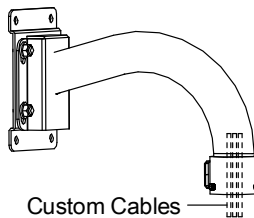
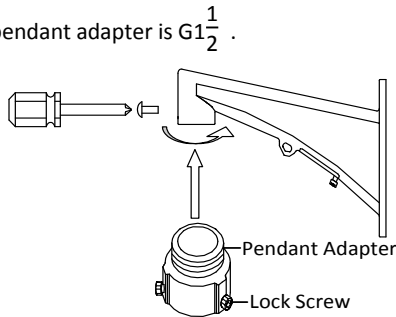
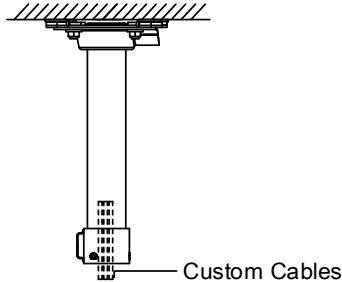

Figure 2-17 Getting the Cables through the Bracket
Figure 2-21 Pendant Adapter
Figure 2-32 Fix the Bracket
- 2) Make sure the cables getting through the bracket, as shown in Figure 2-17.
- The bracket in Figure 2-17 is the recommended bracket for this series of speed dome, and a pendant adapter is required if any other bracket is selected. See Figure 2-21.
- The bracket in Figure 2-32 is the recommended bracket for this series of speed dome, and a pendant adapter is required if any other bracket is selected. See Figure 2-21.